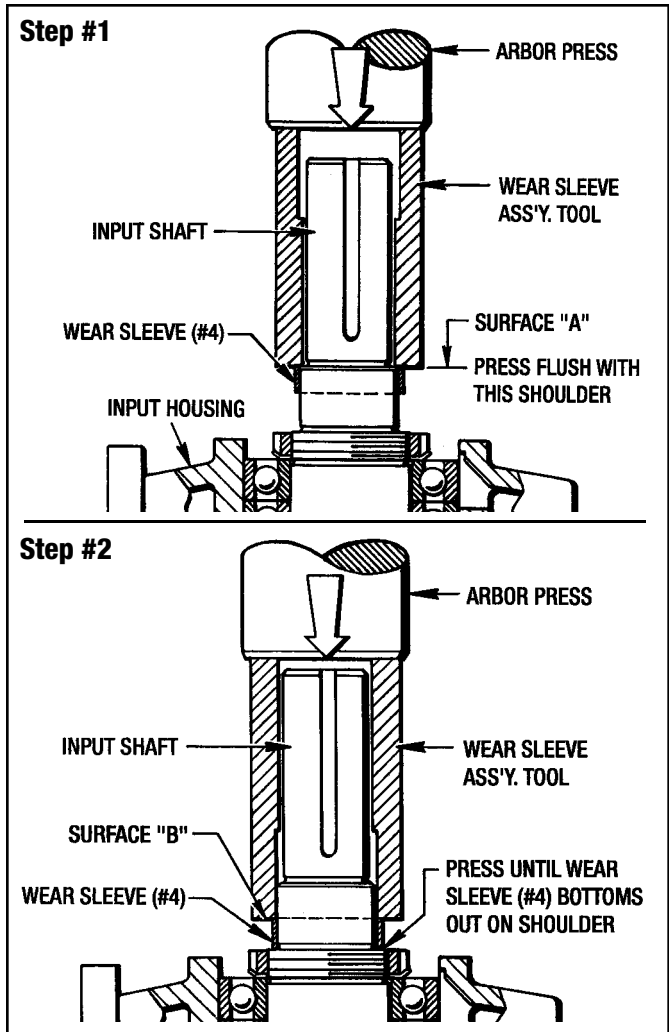

Figure 9.7 - Installing Wear Sleeve (#4)
- Place the Input Housing and Input Shaft into an arbor press. Using Surface "A" of the Ass'y. Tool, press the Wear Sleeve (#4) until it is flush with the input shaft shoulder (See Figure 9.7 Step 1). Turn the Tool around and proceed
to press the Wear Sleeve (#4) completely onto the shaft until it bottoms out on the next shaft shoulder. (See Figure 9.7 Step 2).